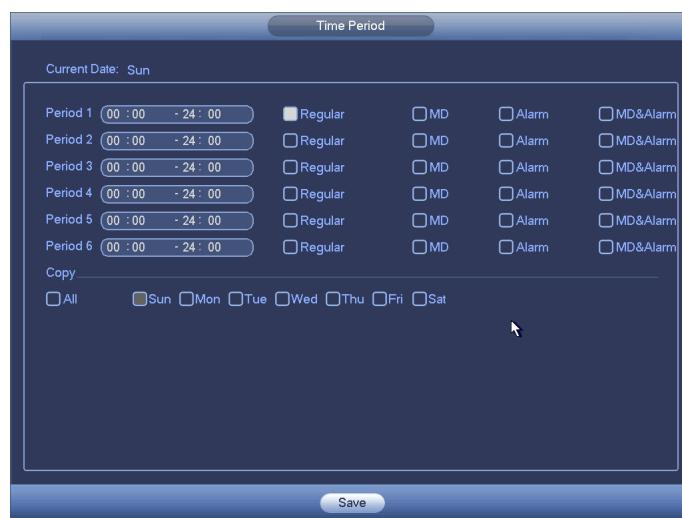

Figure 4-142
- Period setup: Click button  after one date or a holiday, you can see an interface shown as in Figure 4-142. There are four record types: regular, motion detection (MD), Alarm, MD & alarm.